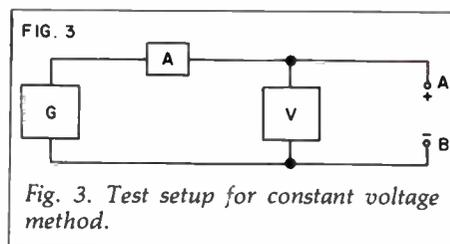

Fig. 3. Test setup for constant voltage method.
For this test you will need a generator (G), a voltmeter (V), and an ammeter (A) hooked up as in Fig. 3.